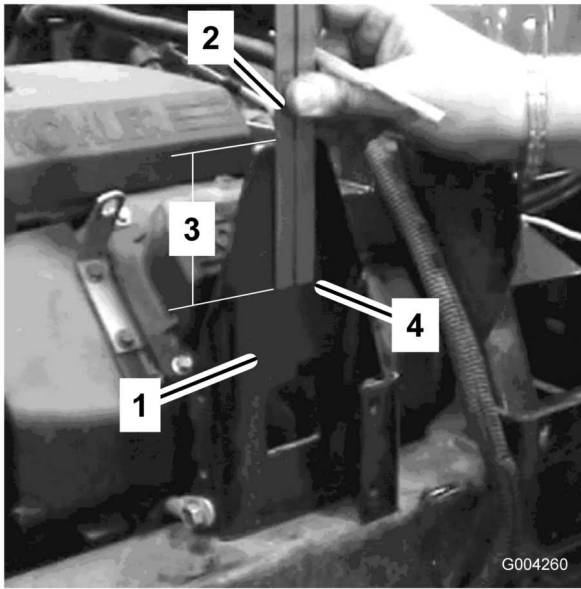

Figure 6
- Measure 3-1/4 inch down from the top of the shift selector bracket and score a mark (Figure 6).